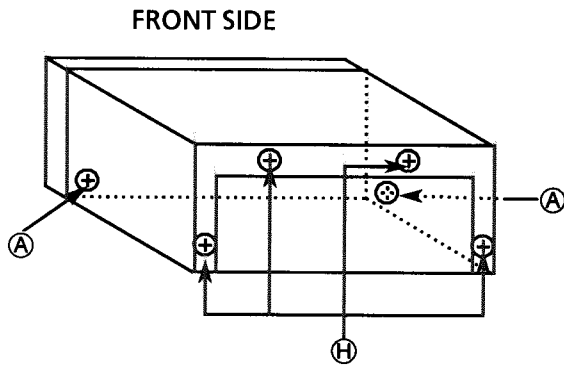

Fig. 1
(2) Life of the laser diode (Fig.1)
(Fig.1)